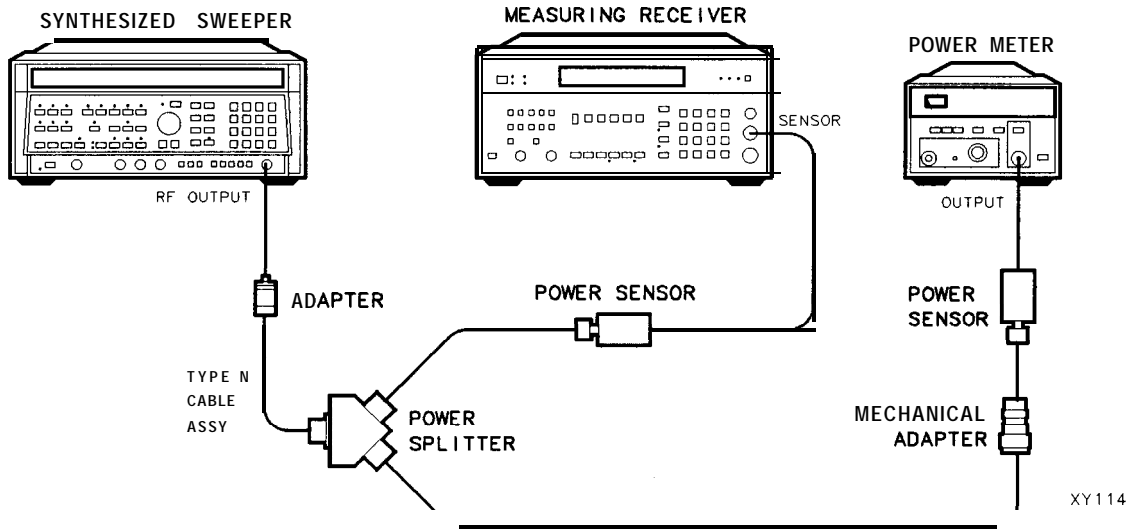

Figure 1-13. System Characterization Test Setup (Option 001)
4. Connect the equipment as shown in Figure 1-13.